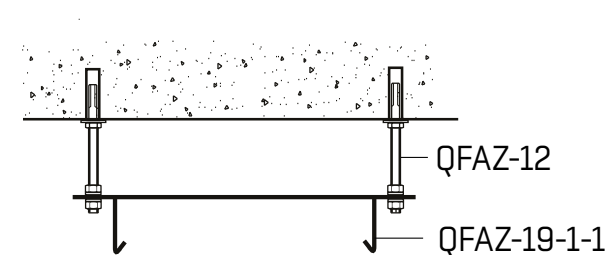

FIGURE 14
- 1) Thread the suspension rods up through the suspension bracket and down into the low-build fastening bracket and tighten the nuts with a wrench. (See **FIGURE 14**)